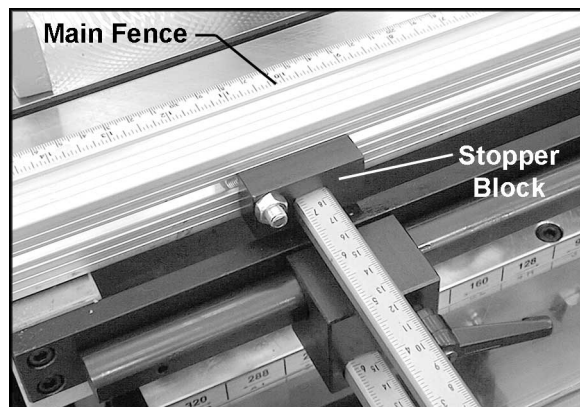
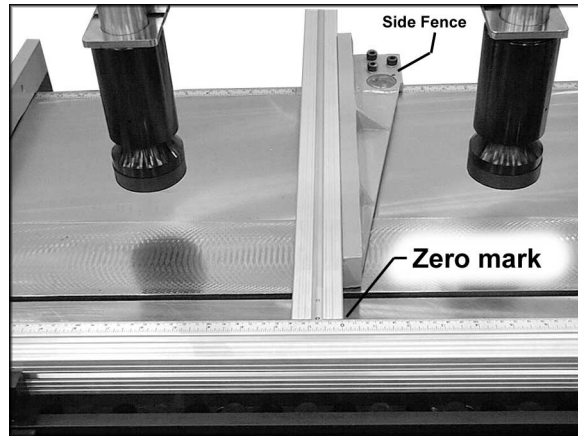

Figure 9
Figure 10
4. Place the fence, scale upward, at the back of the table and slide the carriage bolt shafts through the holes in the stopper blocks, as shown in Figure 9.
1. Slide one of the side fences (Figure 10) to “zero” position according to the scale at the front of the table.
3. Loosen the hex nuts on the stopper blocks that secure the main fence (Figure 9), and shift the main fence as necessary until the “zero” on the main fence lines up with the edge of the extension, as shown in Figure 10.
4. Tighten the hex nuts on the stopper blocks (Figure 9) with a 1/2” wrench.